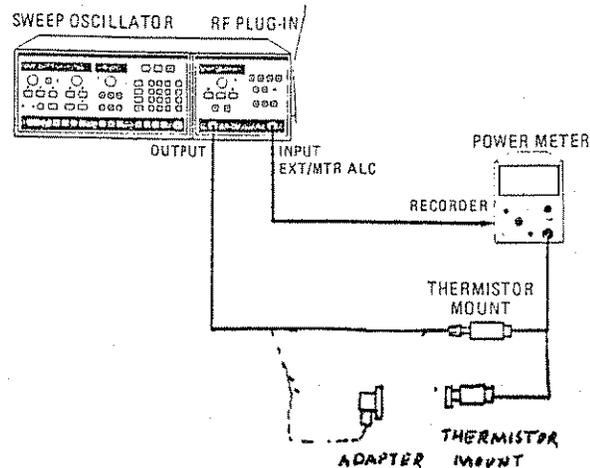

Figure 4--3. Power Meter Leveling Test Setup.
1. Connect equipment as shown in Figure 4--2.
14. Connect equipment as shown in Figure 4--3 use HP 8485A Thermistor Mount.